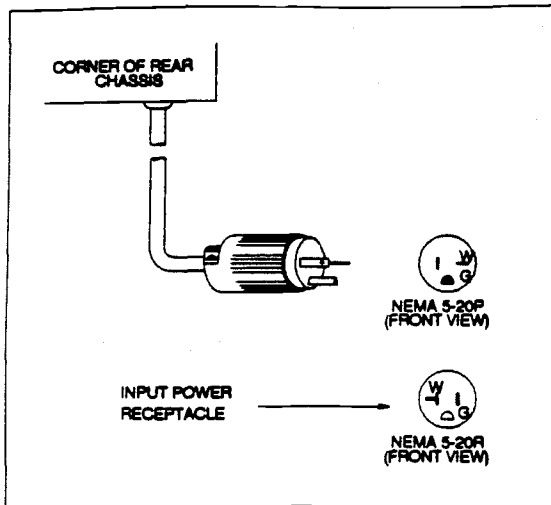

Figure 2-14
Standard connector version is a six (6) foot long AC input power cable hardwired into the rear of the chassis. The other end of the power cable is a three (3) terminal twenty (20) ampere male connector labeled NEMA 5-20 (or NEMA 5-20P). This appears very similar to the household NEMA 5-15 (115 VAC, 15 ampere) plug, except ONE pin is turned 90 degrees to indicate its 20 ampere rating. Each chassis has its own separate AC power cable. This connector is shown in Figure 2-14.